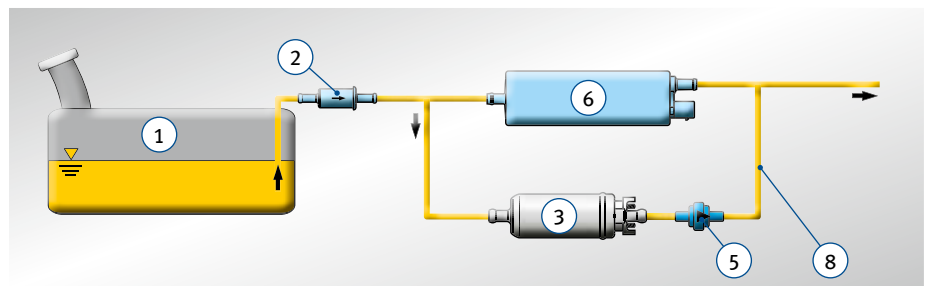

Fig. 5: Installation of the E1F in parallel to an existing fuel pump
Fig. 5: An E1F parallel to an existing mechanical or electrical fuel pump increases the volumetric flow. The existing fuel pump (6) must be bypassed with a bypass line (8).